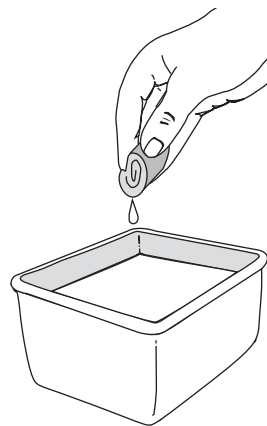

Fig. 16
3. Wash the filter in detergent and water (Fig. 16). Rinse the filter thoroughly. Squeeze out excess water. Allow it to dry completely.